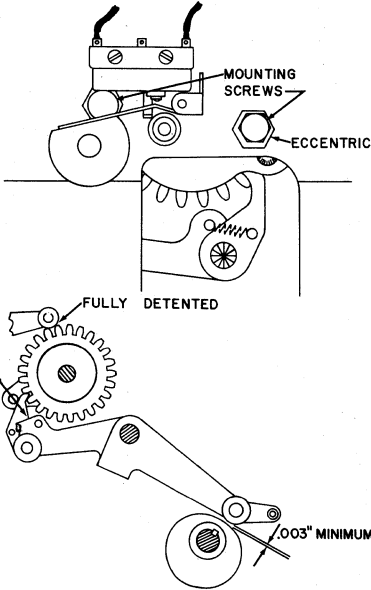

Figure 32
2. Cycle the reader farther so the feed pawl has fully operated and the card feed yoke roller is at the low dwell of the feed cam (Figure 32). Remove the feed yoke springs, loosen the locking screw and adjust the feed pawl stop eccentric so that the ratchet wheel is fully detented under the detent roller. Turning the eccentric will move the ratchet wheel with respect to the detent roller. Keep finger pressure on the card feed yoke and be sure that there is a minimum of .003" between the roller and the low dwell. If there isn't, recheck the adjustments.